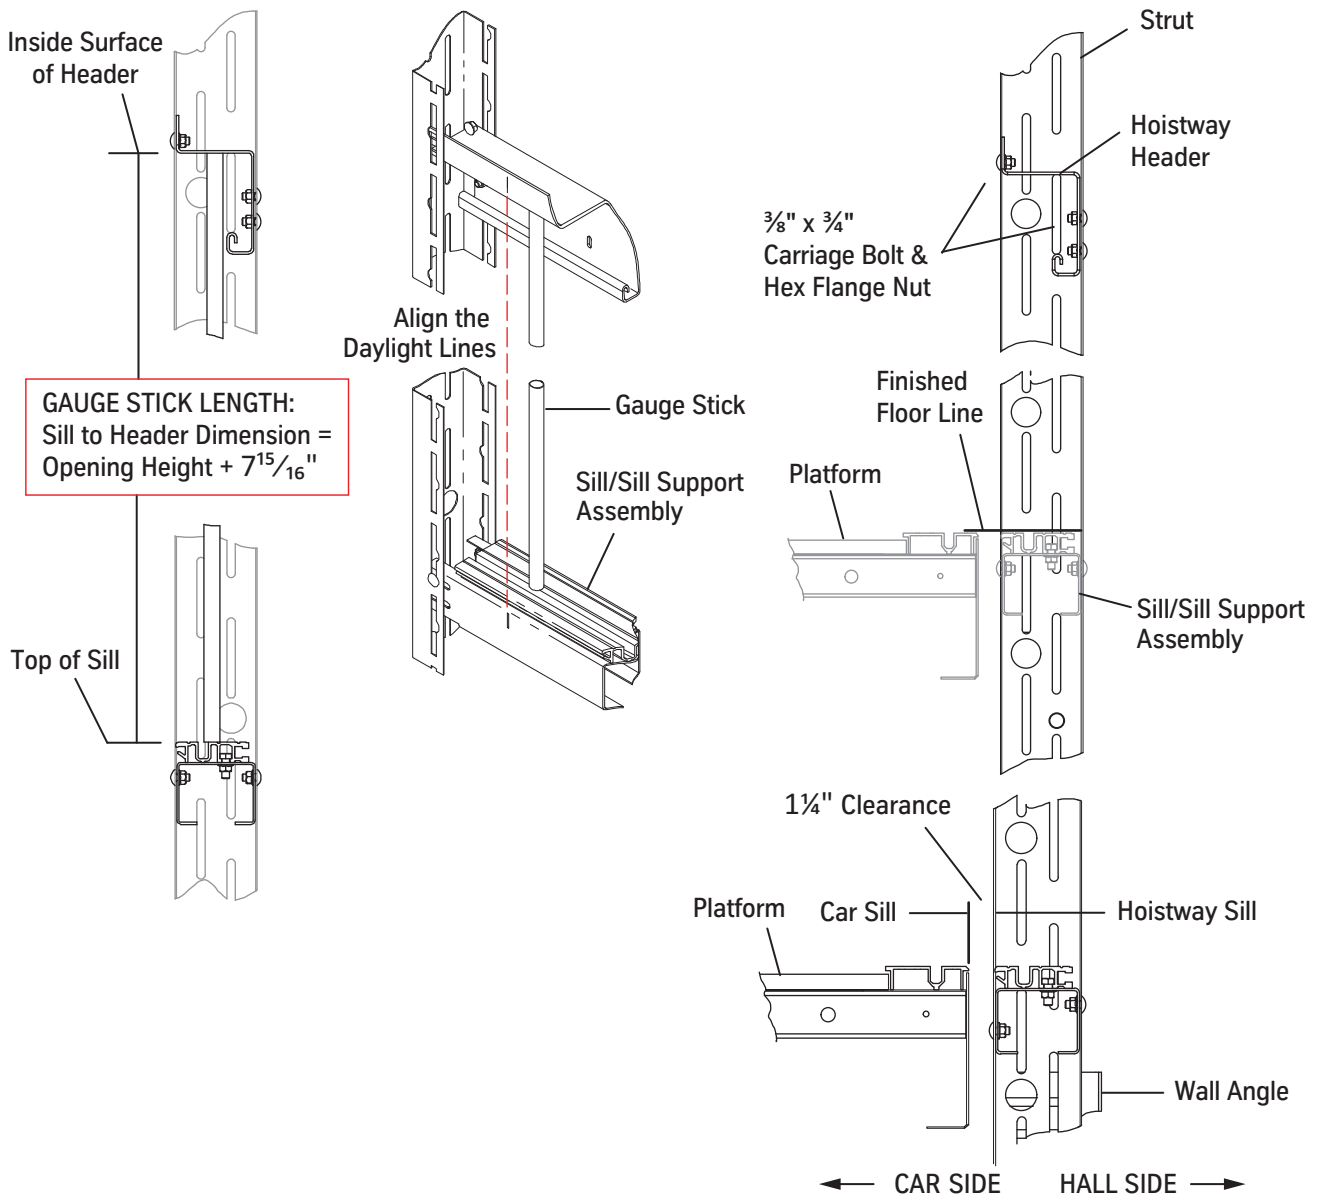

Figure 5 - Install and Adjust the Hoistway Header
2. Place the gauge sticks on the sill of the landing below, one at each end of the sill. See Figure 5 on page 16 for all steps on this page.